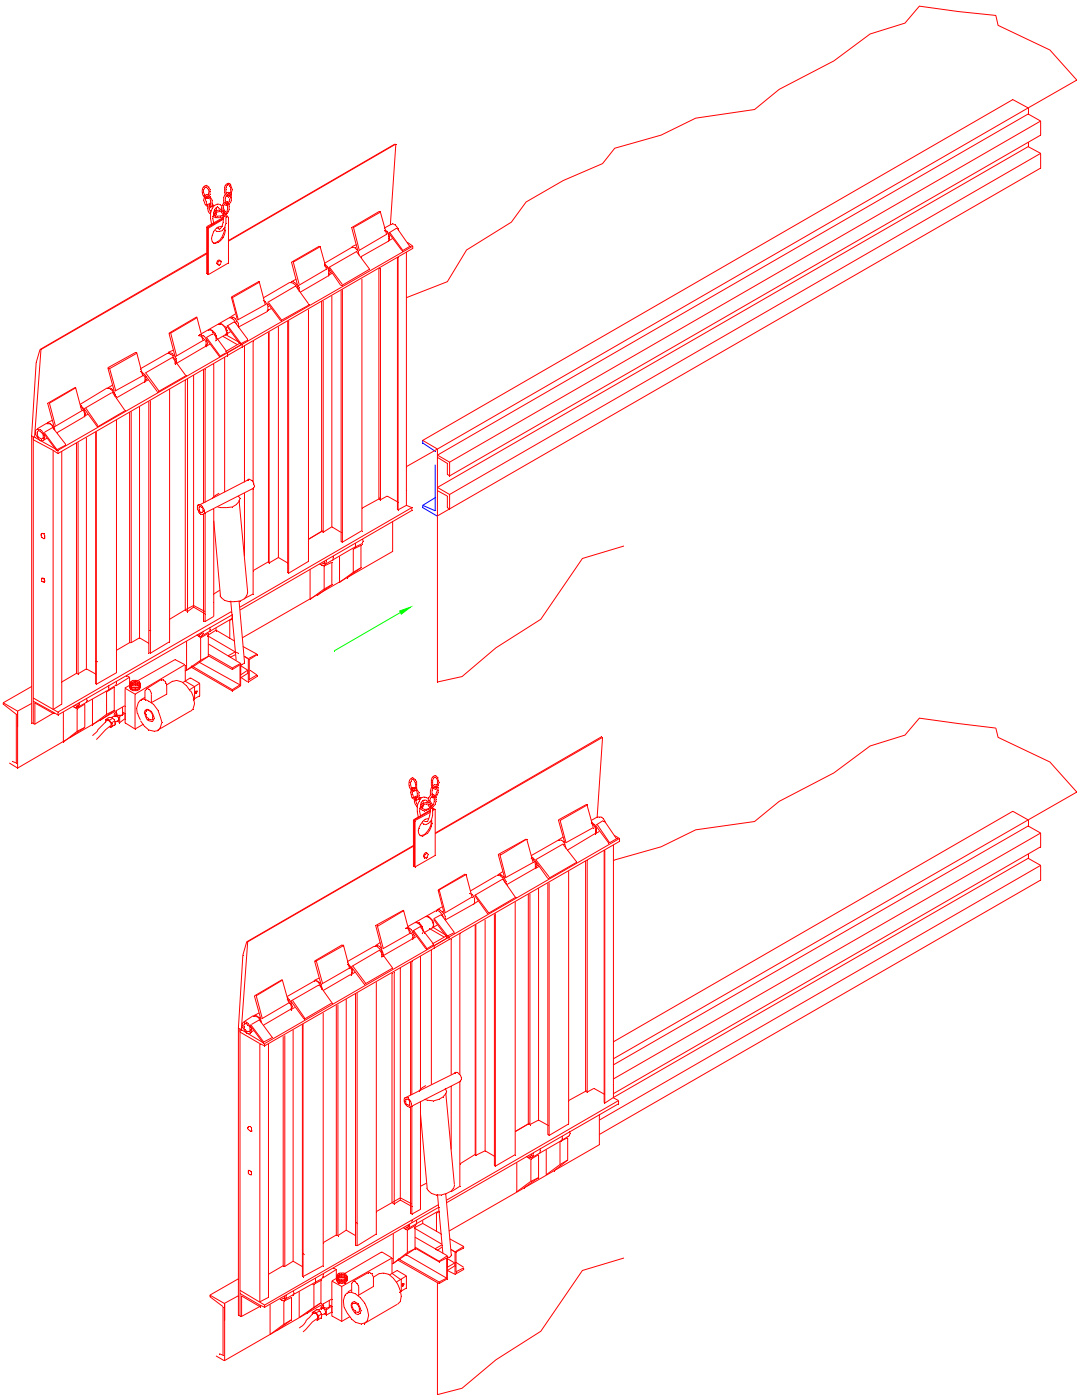

Figure 8
4. Slowly move the railramp along the track until the second set of rollers engage railramp track. Railramp alignment must be maintained to eliminate binding (See Fig. 8).